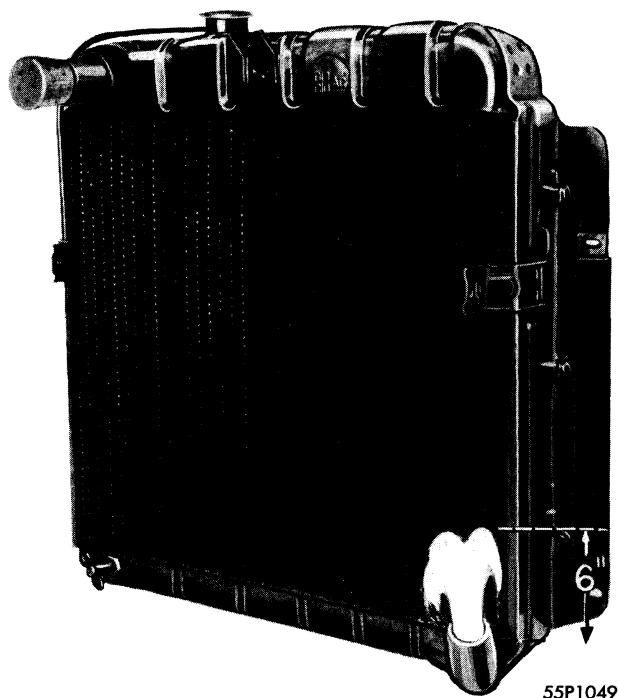

Figure 17—Testing for Clogged Radiator Core
3. **RADIATOR**—To test for clogged radiator core, remove the top and bottom radiator hose and insert plugs in the inlet and outlet connections. See Figure 17. Fill the radiator with water. Then remove the plug from the bottom connection. If the passageways in the core are not clogged, the column of escaping water should extend 5 to 6 inches above the lower connection.